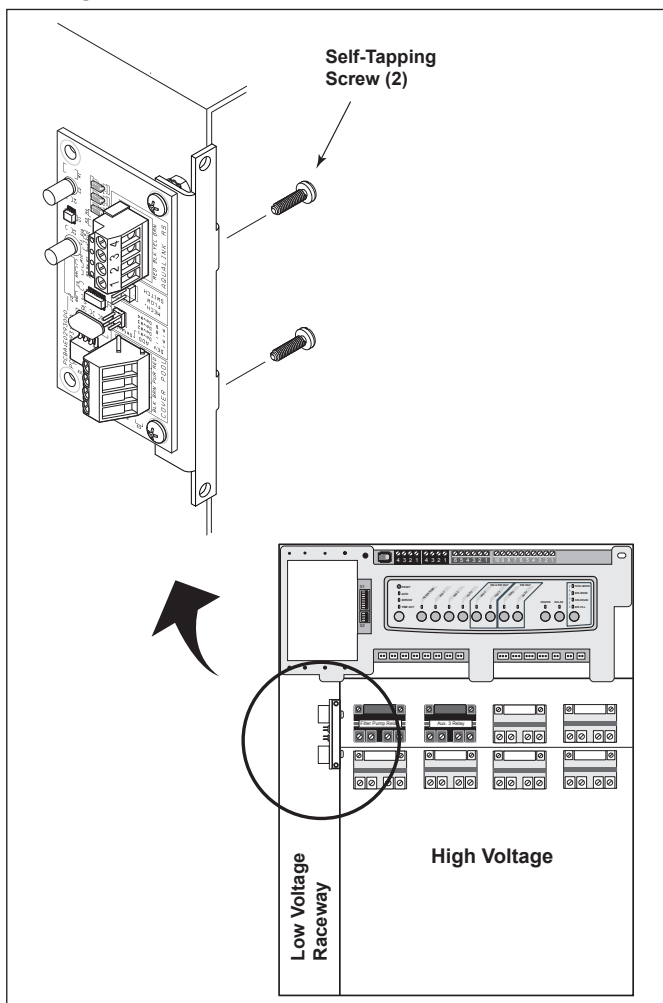

Figure 3. Installation of the Cover-Pools/AquaLink RS board in the Low-Voltage Raceway
- Secure the Cover-Pools/AquaLink RS interface board and mounting bracket inside of the power center enclosure in the low voltage raceway with the two self-tapping screws provided as shown in Figure 3.